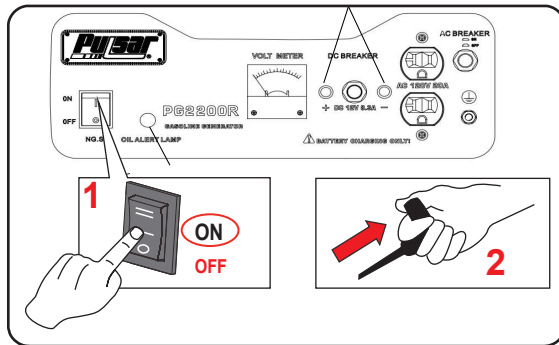

Fig 9 Recoil Start
- For manual start, turn the engine ON/OFF switch to the “ON” position. Pull the recoil starter grip slowly until resistance is felt, then pull rapidly. (See fig 9)